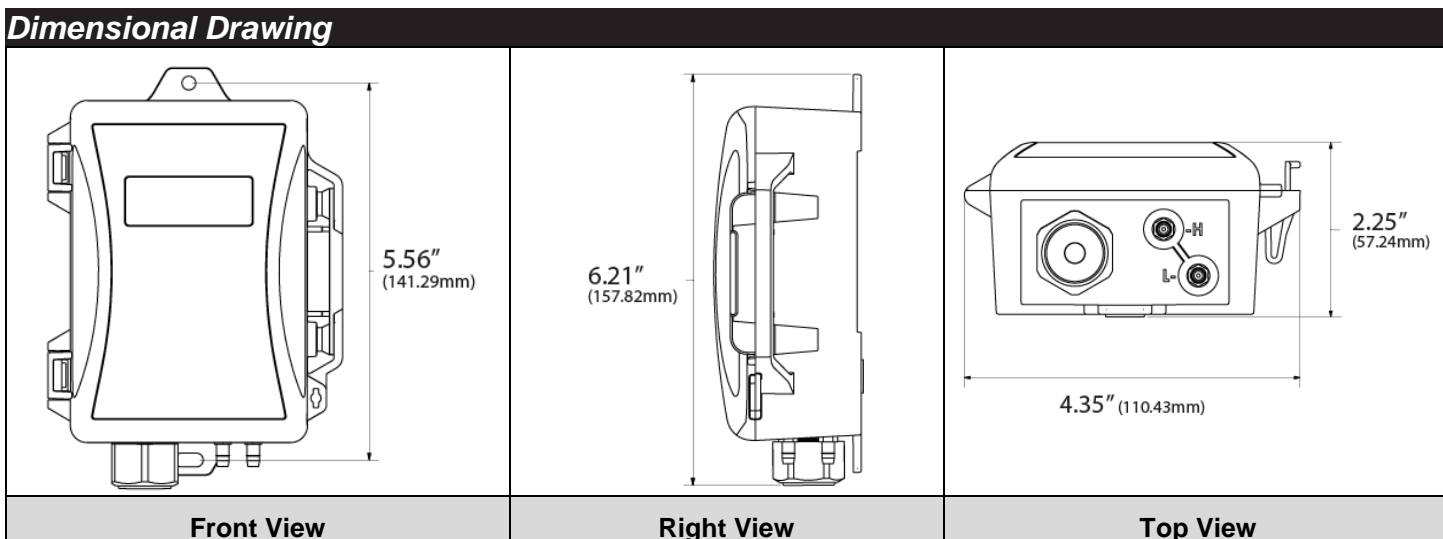

Figure 1
Find a suitable location for the enclosure. The DLP has 2 two mounting holes located on the top and bottom flanges. Drill pilot holes for the (2) #8 x 3/4" self-drilling screws (supplied). Use the enclosure flange as a guide, or use the dimensions listed in Figure 1. Mount the unit vertically with the brass fittings pointing towards the ground. This ensures that any condensation that may form in the tubing does not have an effect on the pressure sensor. If mounting the unit horizontally, a slight zero shift may occur and care must be taken to prevent moisture from building up in the sensor.